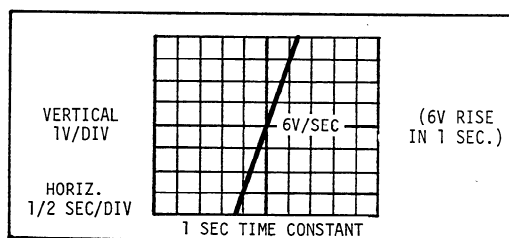

FIGURE 41. Time Constant Check.
f). For the Model 840 Time Constant (S1104) of 1 sec. through 100 sec. use the Oscilloscope settings shown with the following drawings and check to insure that the rise times look approximately like Figures 41 through 45.